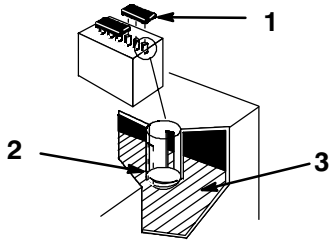

Figure 44
1. Open covers to see into the cells. The electrolyte must be up to the lower part of the tube (Fig. 44).
Important Do not allow the electrolyte to get below the plates. (Fig. 44).
2. Lift off the filler caps (Fig. 44).
3. Slowly pour distilled water into each battery cell until the level is up to the lower part of the tube (Fig. 44).